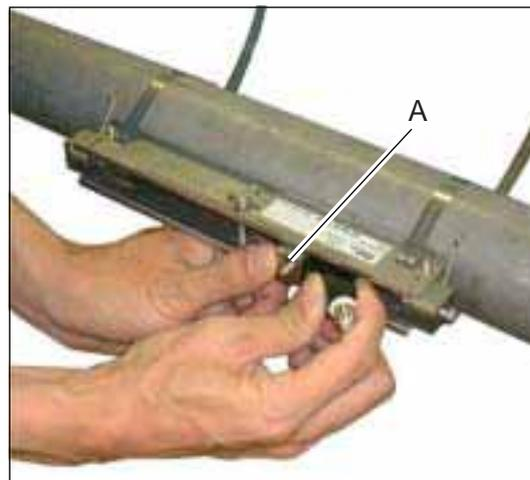
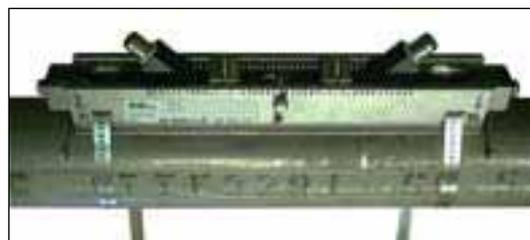

Fig. 3-14
Fig. 3-15
- (3) Then insert the sensor unit into the frame, align the slit provided on the pressing fixture of the sensor unit with graduations located on the frame top surface (see Fig. 3-14), and press the sensor unit until the fixture claws are engaged with the frame side square holes. Mount both sensor units so as to be roughly symmetrical with respect to the frame (see Fig. 3-15).